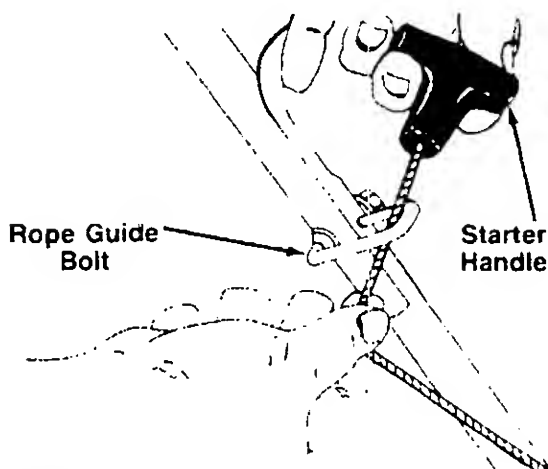

FIGURE 8.
3. Slip the starter rope into the rope guide bolt as shown in figure 8